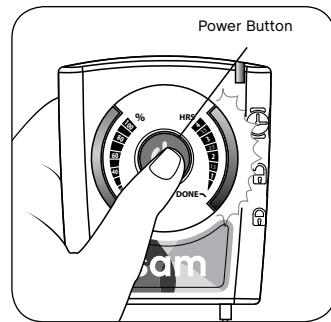

figure 11B: Press Power Button
- B. Press and hold the *Power Button* on the **sam** Power Controller for at least 1 second to turn the device 'ON' (Figure 11B).
Move the *Lock Switch* up to the 'unlocked position' (if locked) then press and hold the *Power Button* on the **sam** Power Controller *for at least 1 second* to turn the device 'OFF' (See Figure 11B for device diagram).